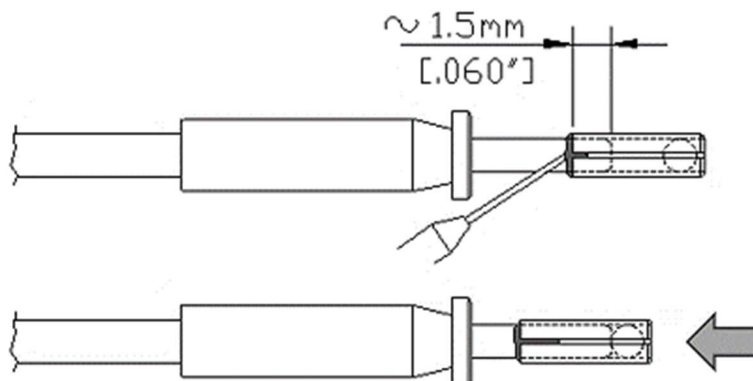

Figure 7
- Apply EPO-TEK353® ND epoxy to the ferrule just below the lens unit, see Figure 7 and then continue to push the lens-unit straight down onto the ferrule (without rotation) until the ferrule front (fiber) makes positive contact with the lens.